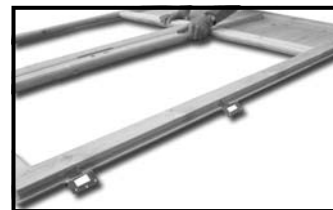

Fig C1
4. Make a visual judgement to the gap top and bottom of the doors then transfer the screw centre marks (see step B 14) to the doors. This is to ensure the hinge screws miss the frame screws (fig C1)..
6. Place the hinges as shown in fig C1 Screw the inner piece of the hinge to the door with 3 x 25mm screws.